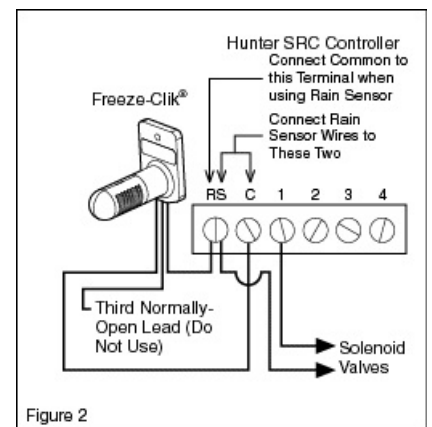

Figure 2
2. Connect one wire to the RS terminal and other to the C terminal (See Figure 2).
- [2] http://www.hunterindustries.com/sites/default/files/ts_freezeclik_fig2.gif